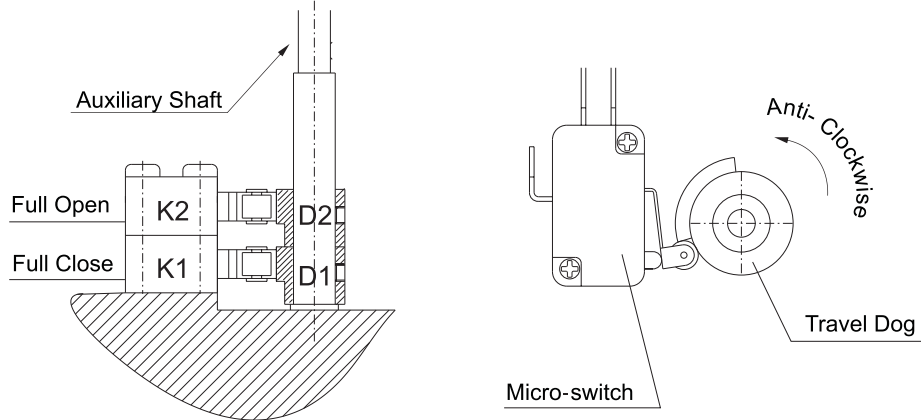

Fig. 5
**1. Adjustment of limit position switch (electrical limit) (Fig. 5)**
- ① Drive the valve to Full Close position by crank.
- ② Loose the fixing screw on travel dog, D1; Turn D1 clockwise, making the corresponding microswitch, K1 move. When the microswitch being initiated, you can hear a sound of "click", and then stop turning D1 and fasten the screws on D1, so as to fix D1.
- ③ Drive the valve to Full Open position by crank. Loose the fixing screw on travel dog, D2; turn D2 anti-clockwise, making the corresponding microswitch, K2 move. When the microswitch just being initiated, you can fasten the screws on D2 and fix D2.